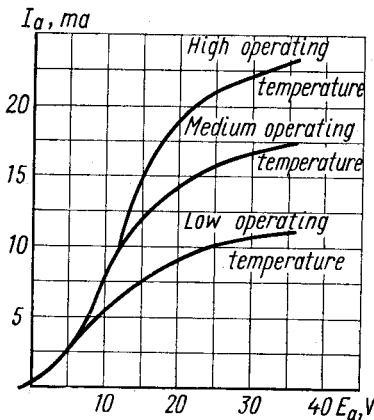

Fig. 2. Diode characteristic plate current-plate voltage curves
3. The diode characteristics for a typical diode tube and various cathode operating temperatures are shown in Fig. 2.
It is seen from Fig. 2 that all the curves are the same at low plate voltages, where the negative space charge is most effective in limiting the flow of electrons. The plate current in the low plate-voltage region is completely controlled by the voltage at the plate and